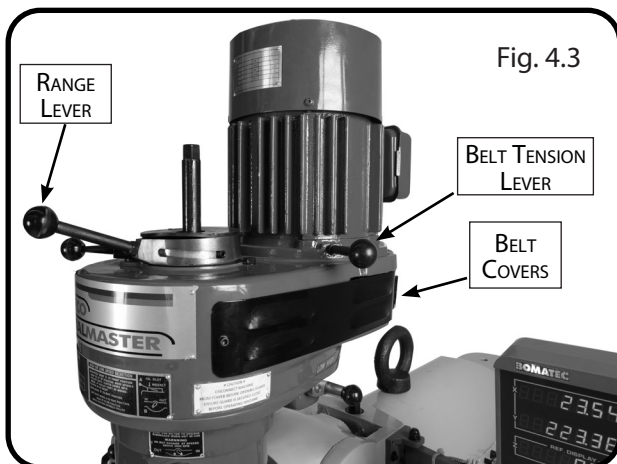

Fig. 4.3
3. Pull the spindle speed range selector knob (see Fig. 4.3) out, position either in HIGH or LOW range, then release knob to seat knob pin in detent.
5. Remove belt housing side covers on either side of head to expose V-belt and pulleys, as shown in Fig. 4.3
6. Loosen two motor lock levers, one on each side of head, then pull belt tension adjustment lever forward to release V-belt tension (see Fig. 4.3).